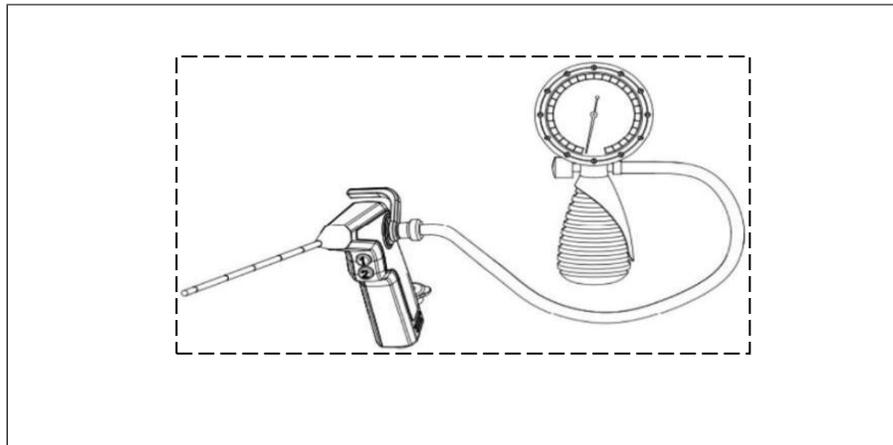

Fig7.6
- Only the duct of leakage tester and the pressure compensation cap can be immersed. (as shown in Fig7.6). Immersion of other components of the leakage tester may lead to its damage.
3. Attach pressure compensation cap connector of the leakage tester to the endoscope connector, and make sure it is in place (as shown in Fig 7.6).